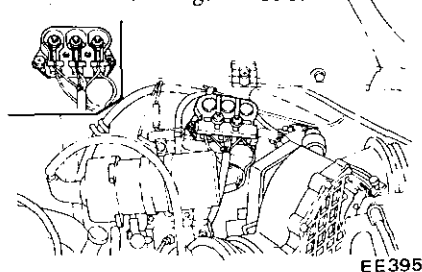

Fig. ER-6 Disconnecting wire for block terminal
- Wire to block terminal distributor harness. See Figure ER-6.